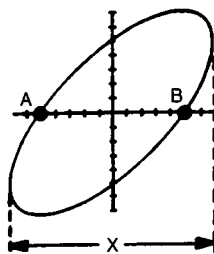

Figure 3-37
12. On your oscilloscope, count the number of minor (smaller) divisions between points A and B as shown in Figure 3-37.
13. Count the number of minor (smaller) divisions for measurement X as shown in Figure 3-37.